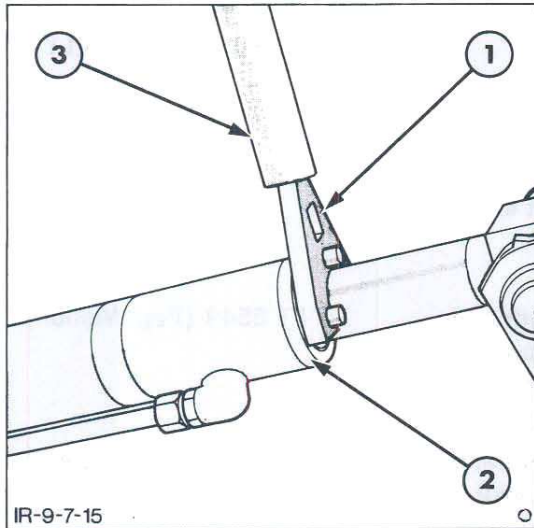

Figure 15
- Loosen the cylinder gland using the appropriate peg wrench as shown in Figure 15.